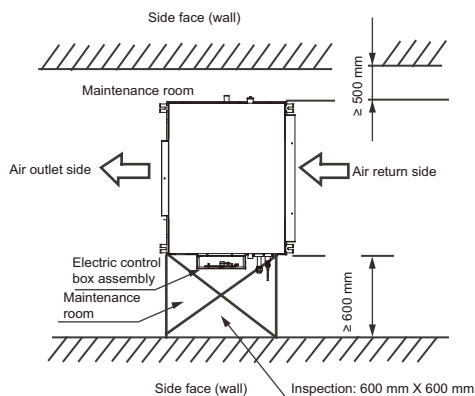
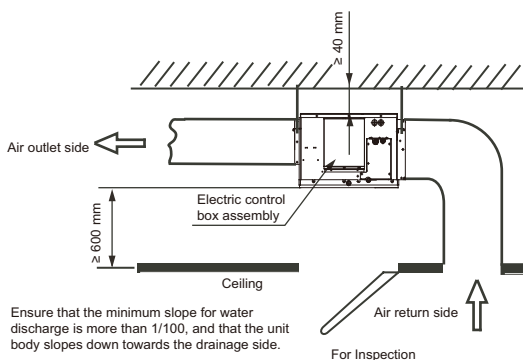

Figure 2.1
Figure 2.2
2.3 The space required for installation (unit: mm) is shown in Figure 2.1 and Figure 2.2: